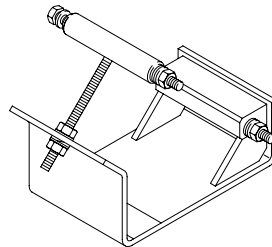

Fig. 4.3
- Check the availability of the universal compressor mounting bracket from Webasto (Fig. 4.3) and whether it can be used.